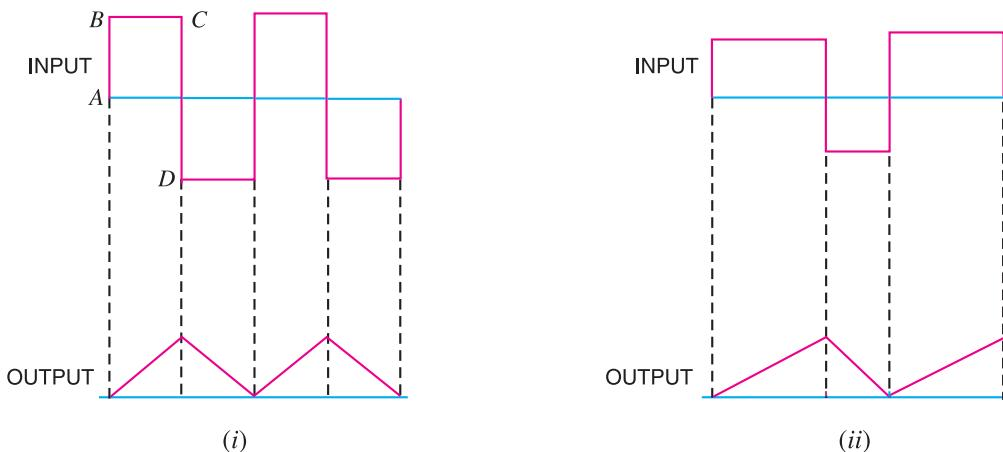

Fig. 18.24
- (i) **When input is a square wave.** When the input fed to an integrating circuit is a square wave, the output will be a triangular wave as shown in Fig. 18.24 (i). As integration means summation, therefore, output from an integrating circuit will be the sum of all the input waves at any instant. This sum is zero at  $A$  and goes on increasing till it becomes maximum at  $C$ . After this, the summation goes on decreasing to the onset of negative movement  $CD$  of the input.
**(ii) When input is rectangular wave.** When the input fed to an integrating circuit is a rectangular wave, the output will be a triangular wave as shown in Fig. 18.24 (ii).